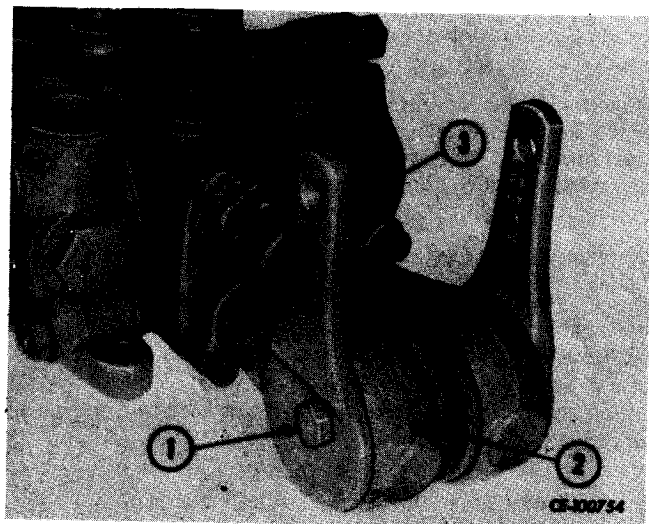

Figure 11-31
Thoroughly clean exterior of valve. Tag all connections for installation reference. Disconnect all lines from valve. Cap or plug openings and lines to prevent entry of foreign material. Remove hardware securing link rod ball joint ends to lever arms (3, Fig. 11-31) and disconnect them. Remove mounting hardware. Remove valve from tractor to a clean work area.
Remove nut and cap screw (1, Fig. 11-31) that secure lever arm (3) to actuating housing (2).
NOTE: Load check poppets (3, Fig. 11-31), springs (4) and "O" rings (5) are enclosed between sections. Exercise care to avoid losing poppets and springs when sections are separated. Tag poppets with respect to their plunger sections.